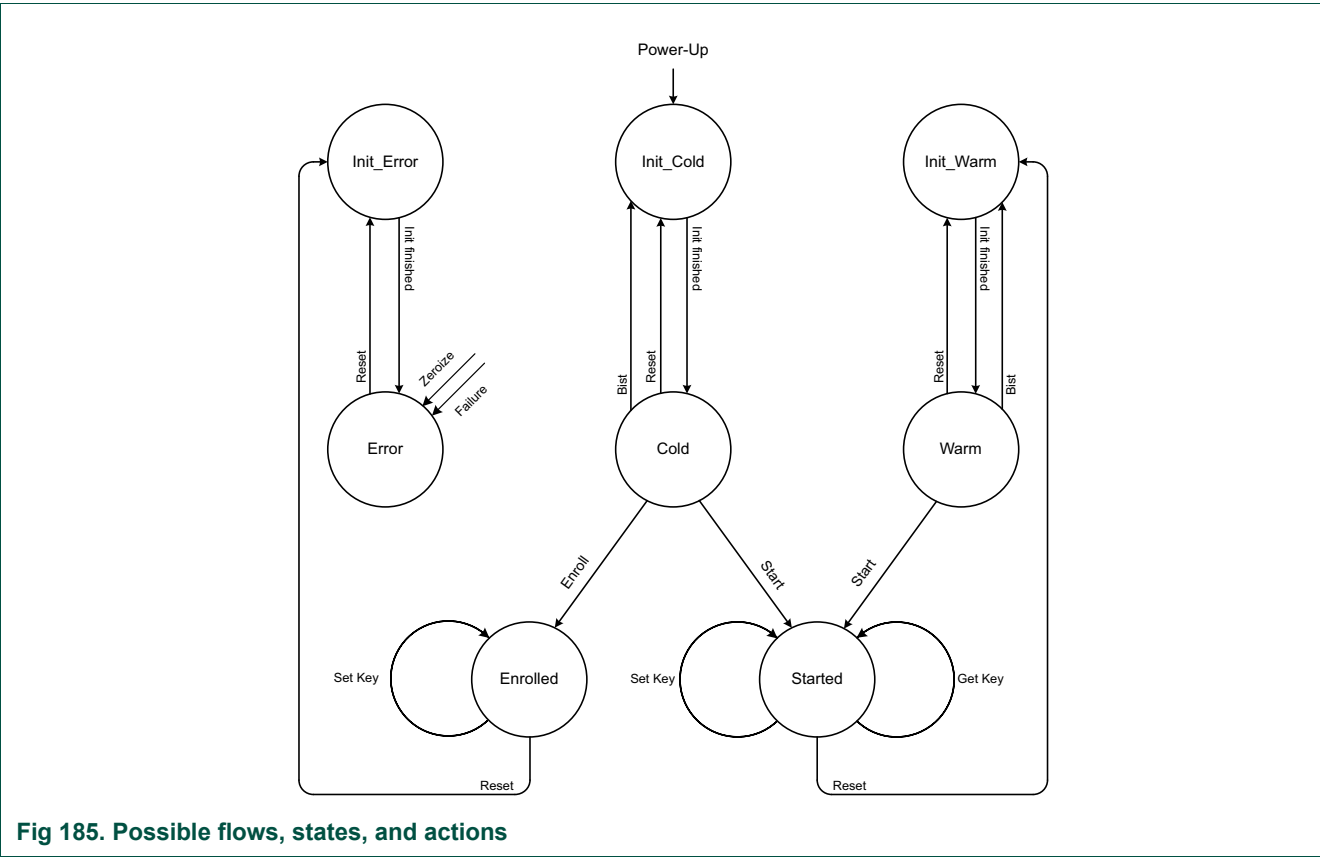

Fig 185. Possible flows, states, and actions
After power-up or reset the PUF controller starts in one of the three Init states, depending on its previous state. See Figure 185. It first initializes itself (indicated by BUSY = 1).
3. After the operation is finished the PUF de-asserts BUSY and asserts SUCCESS, signaling that the Start operation has completed successfully. When ERROR is asserted, instead of SUCCESS, the provided activation code does not match the device. In this case the PUF as gone to the Error state. See Figure 185 and Section 48.11.7.13 "Error response".
3. After the operation is finished BUSY is de-asserted and SUCCESS is asserted. It indicates that the Get Key operation has completed successfully. If ERROR is asserted instead of SUCCESS, the provided key code does not match the device. In this case no key is provided and the PUF controller goes to the Error state. See Figure 185 and Section 48.11.7.13 “Error response”.